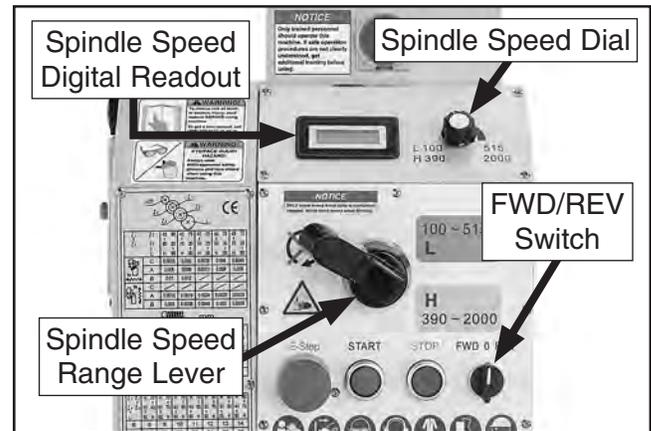

Figure 61. Spindle range and speed levers.
Selecting one of the two spindle speed ranges is performed by positioning the spindle speed range lever (see **Figure 61**) to Low (L) or High (H) range.
2. Move spindle speed range lever to Low (L) position (see **Figure 61**).